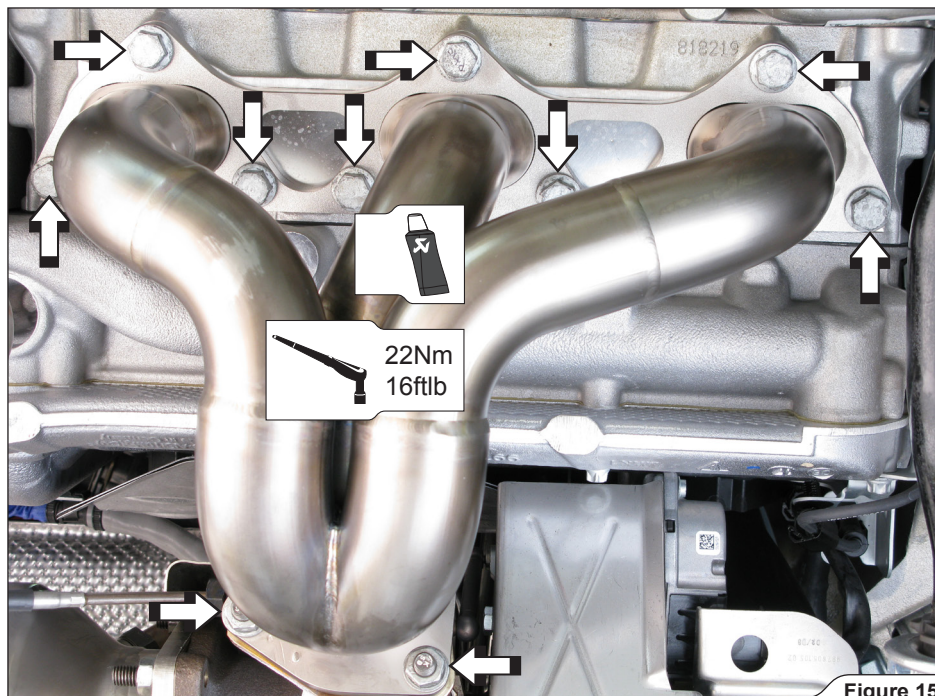
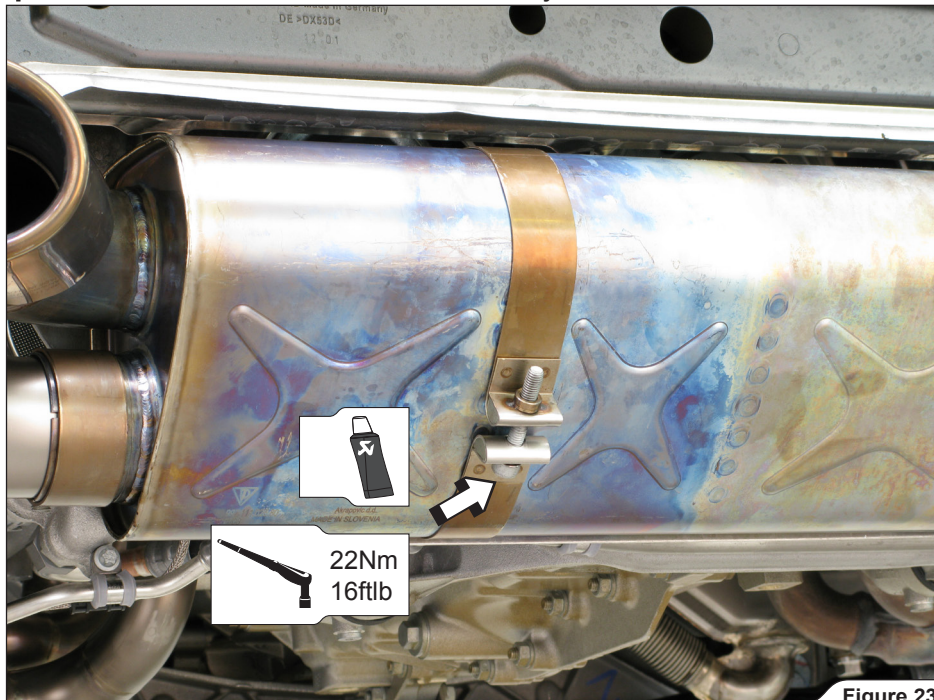
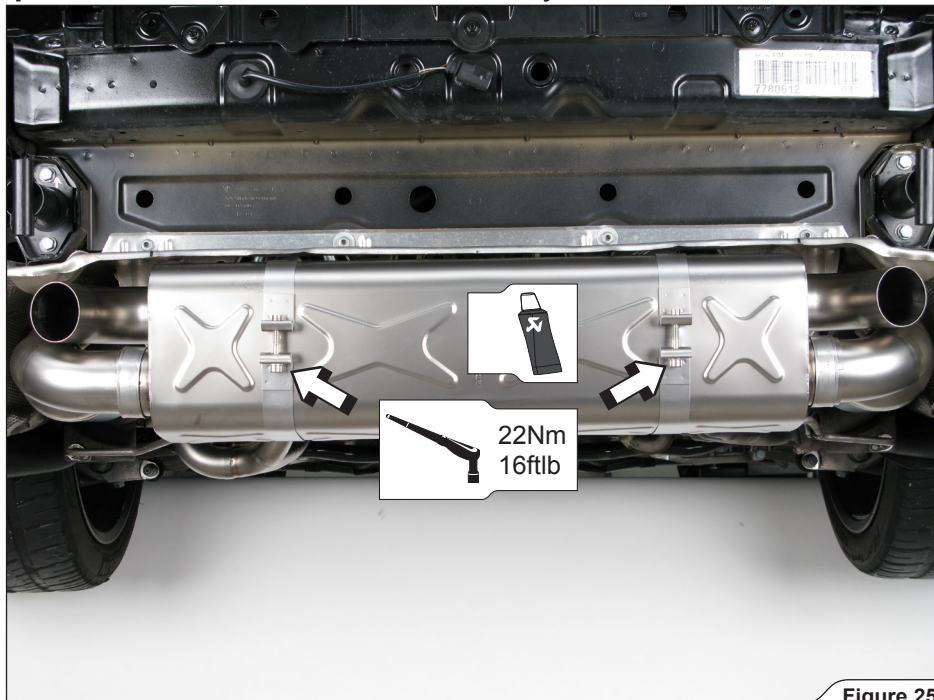

Figure 15
Figure 23
Figure 25
8. **For Upgrade Kit1/2:** center and align the muffler in respect to the vehicle chassis (**Figure 23**). Tighten all muffler clamps to a specified torque (**Figure 23, 24**). **Now tighten the right side headers to a specified torque (Figure 15; Page 22)!**
9. For Slip-On Race and Evolution Race: center and align the muffler in respect to the vehicle chassis (Figure 25). Tighten all muffler clamps to a specified torque (Figure 25, 26). Now tighten the right side headers to a specified torque (Figure 15; Page 22)!